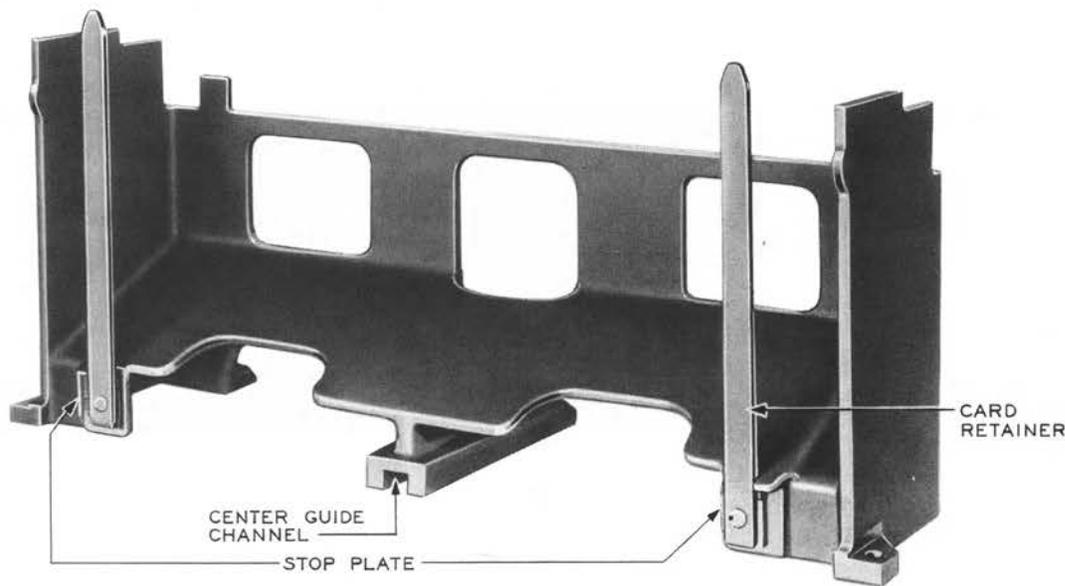

Fig. 48—Out Bin—Initially Furnished
**3.007 *Removing and Remounting Out Bin:*** To remove and remount the out bin (Fig. 48), proceed as follows.